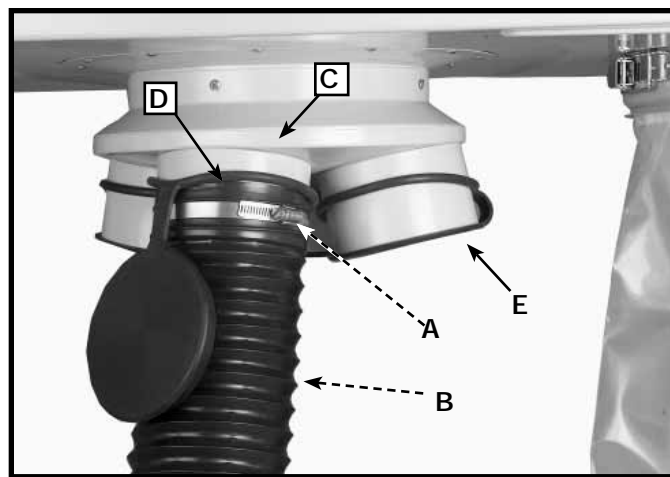

Fig. 13
To assemble the 5" dust collection hose (not included) to the motor and blower assembly, loosely attach hose clamp (A) Fig. 13, around one end of flexible hose (B) and assemble the hose to dust intake port (C). Tighten hose clamp (A). Assemble the remaining clamp to the other end of the flexible hose and to the woodworking machine.
NOTE: Do not operate the dust collector with any of the holes in dust intake port (C) Fig. 13 uncovered. To cover a hole not being used by a hose, place the flat intake cap (E) on dust intake port as shown in Fig. 13.